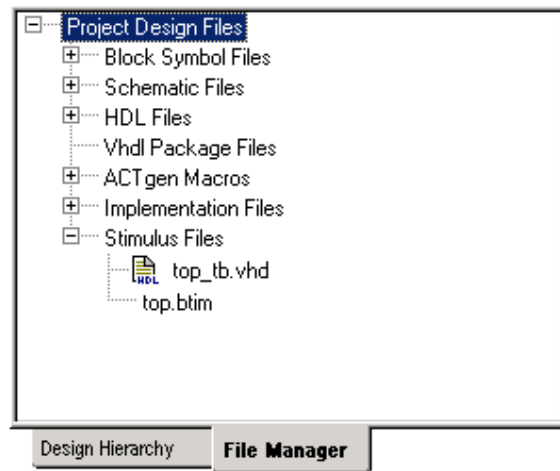

Figure 25 - Stimulus files for top in Libero IDE
7. The stimulus files are visible on the Libero IDE File Manager tab (Figure 25).